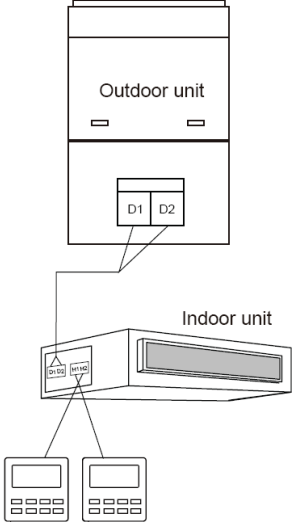

Fig. 3.4 Two wired controllers control one indoor unit
- (1) When one wired controller controls multiple indoor units simultaneously, the wired controller can connect to any one indoor unit, but the connected indoor unit must be the same series indoor unit. The total quantity of indoor unit controlled by one wired controller can't exceed 16 sets, and the connected indoor unit must be within the same indoor unit's network. Wired controller must set quantity of the connected indoor units. Please refer to 3.2.3 Parameters Setting.
- (2) When two wired controllers control one indoor unit, the addresses of those two wired controllers should be different. Please refer to 3.2.3 parameter setting.
- (3) When two wired controllers control multiple indoor units, the wired controller can be connected to any one indoor unit, while the connected indoor unit should be the same series indoor unit. The addresses of those two wired controllers should be different. Please refer to 3.2.3 parameter setting. The total quantity of indoor units controlled by wired controllers can't be more than 16 sets and all connected indoor units must be within the same indoor unit network. Wired controller must set quantity of the connected indoor units. Please refer to 3.2.3 Parameters Setting.
- (4) When one (or two) wired controller(s) control(s) multiple indoor units at the same time, the controlled indoor unit's setting should be the same.
- (5) Wiring of the wired controller and indoor unit network must be according to one of the four wiring method as shown in fig 3.3-3.6. As for the connection method shown in fig 3.4 and 3.6, there should be only one master wired controller (address is 01)